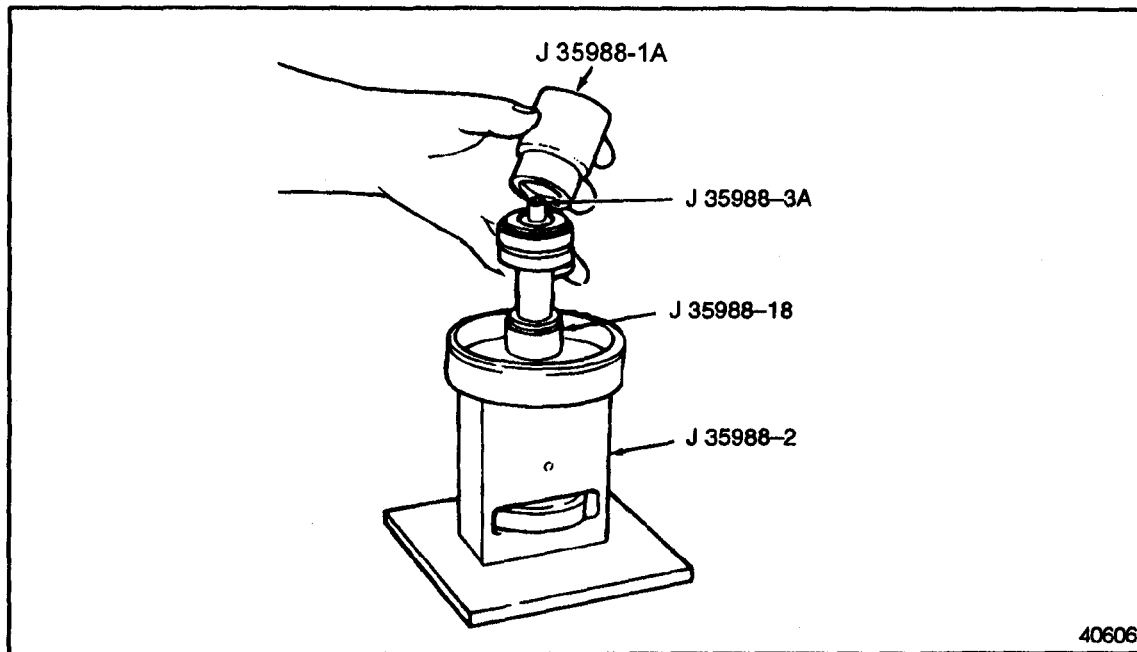

Figure 4-18 Bearing Installation (GCM)
5. Center the small end of J 35988-1A, part of tool set J 35988-B, on the bearing inner race. Press the bearing pack onto the shaft until it contacts the shoulder of the shaft. Remove the tool used to pilot the bearings. See Figure 4-18.